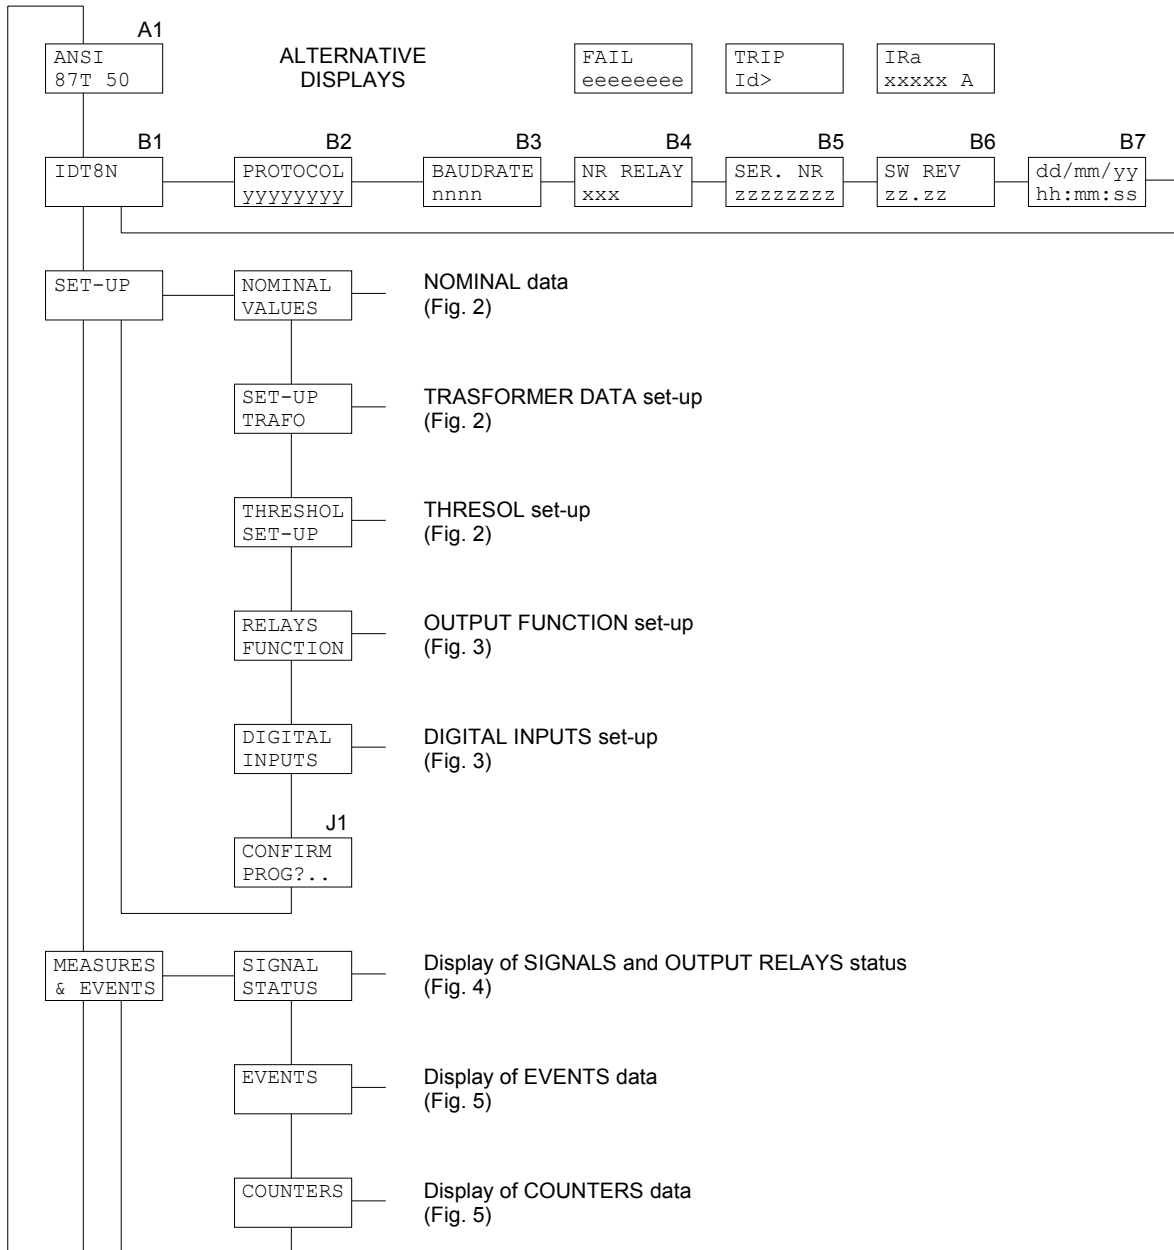

Figure 1
The programmable parameters are showed in Figures 1, 2, 3, 4 and 5 at the following references:
- 5) **CONFIRM** the new protection relay set-up at the visualization CONFIRM PROG? (Fig. 1, ref. J1) within 5 minutes depressing the push-buttons [ENTER],  up to visualize **YES** and [ENTER] again to confirm.
- display on STANDARD MODE (Fig. 1, ref. A1 - par. 5.1)
The contents and the structure of the displayed messages are shown in figures 1, 2, 3, 4 and 5; the references A1, B1, B2 etc. identify specific displayed messages in the figures.
5.3 Address and time (fig. 1)
5.4 Display selection and drop-off delay (fig. 1)**C1 - STANDARD DISPLAY SELECTION (programmable)**